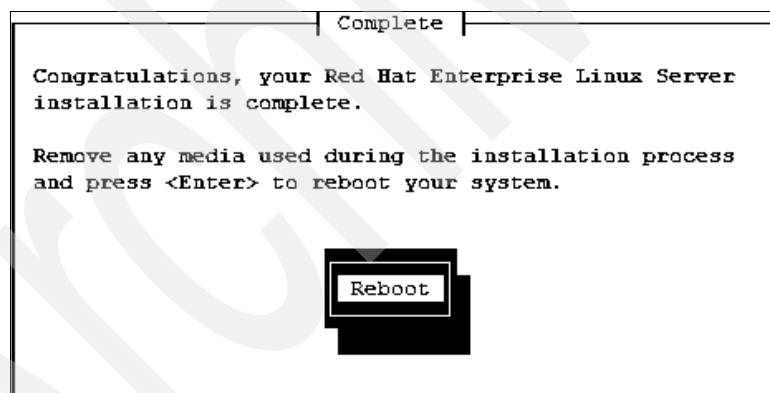

Figure 8-20 Installation complete panel
22. Select **Reboot** after the Install Complete window appears, as shown in Figure 8-20